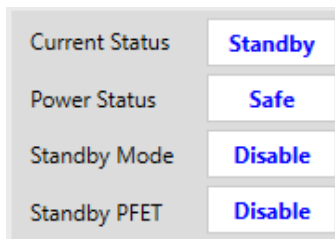

Figure 35: Status Monitor
3. Check the status monitor (see Figure 35).